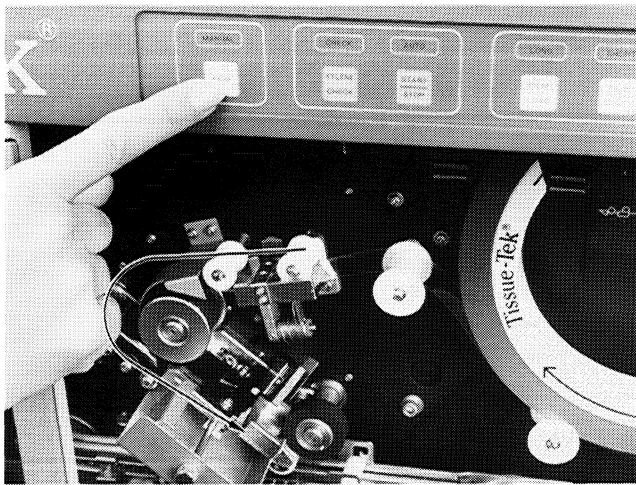

Figure 4-3
- c. Press and hold the FILM keypad. The end of the film should be captured and begin to feed automatically. If this does not occur, carefully feed the film with the other hand while continuing to hold the FILM keypad. The film will then continue to thread through the roller and film press system (Figure 4-3). Release the keypad when the film is just past the blade (3 to 6 mm [$\frac{1}{8}$ to $\frac{1}{4}$ inch]).